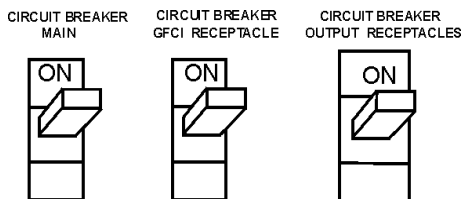

Figure 38. Main and GFCI Circuit Breakers
18. If there are no abnormal problems shown on the "MPEC" LED display, turn the MAIN, GFCI and LOAD circuit breakers to their ON position (Figure 38).